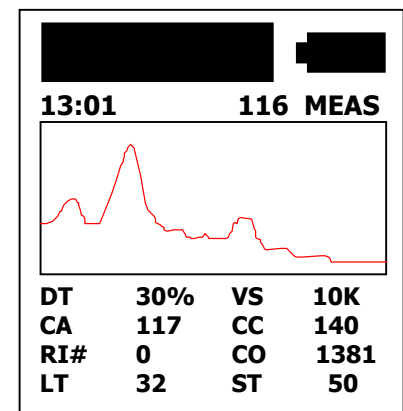
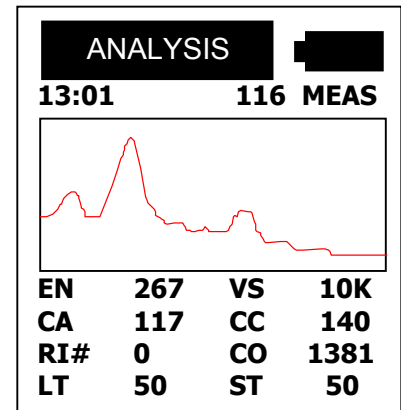

Figure 10
Figure 14
- Highlight **ANALYSIS** in the Main Menu and use a **LONG DOWN** to select. The GR-130 immediately begins to acquire a spectrum with the display appearing as shown in Figure 10.
This option allows the user to take another spectrum sample without having to go back to the Main Menu and selecting ANALYSIS again. Assuming stabilization has not timed out, Figure 10 appears when **START MEAS** is selected and data accumulation begins again.
This display shows the spectrum of the last sample analyzed as in Fig. 14 (same as Fig. 10 but repeated here for ease of explanation). The display shows a full 256 channel Spectrum over a selected range - either 0-1.5 or 0-3 MeV specified during SETUP.